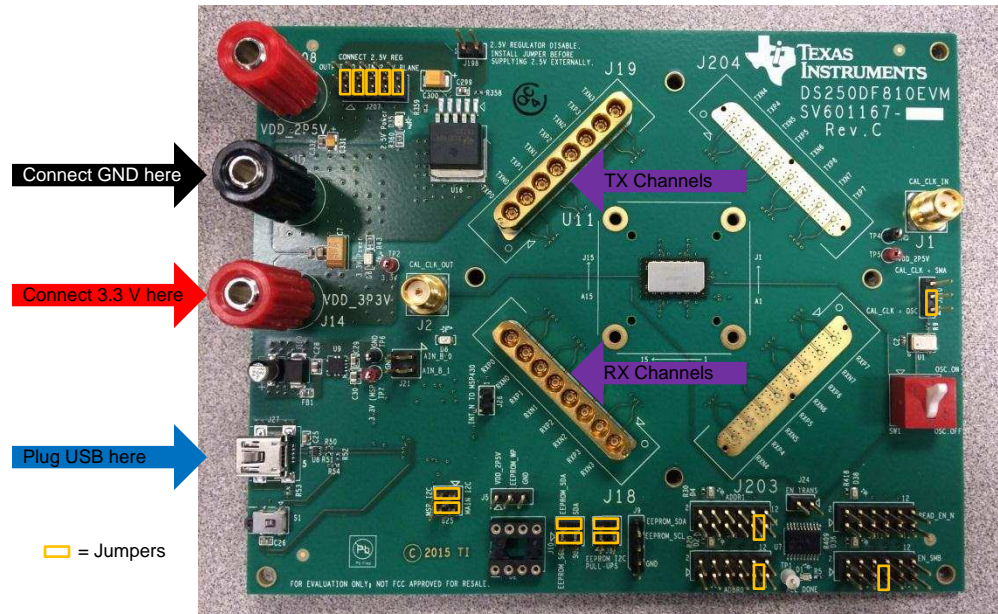

Figure 1. DS250DF810EVM, Showing Necessary Connections for Power, Signal, and USB Communications
1. Check the EVM jumper settings to ensure they match Figure 1 below.